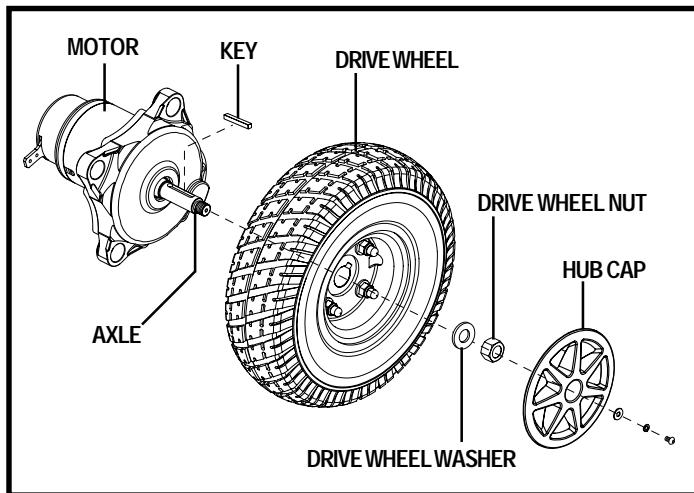

Figure 23. Jazzy Select Drive Wheel
5. Remove the hub cap. See figure 23.
6. Remove the drive wheel nut and washer from the axle. See figure 23.